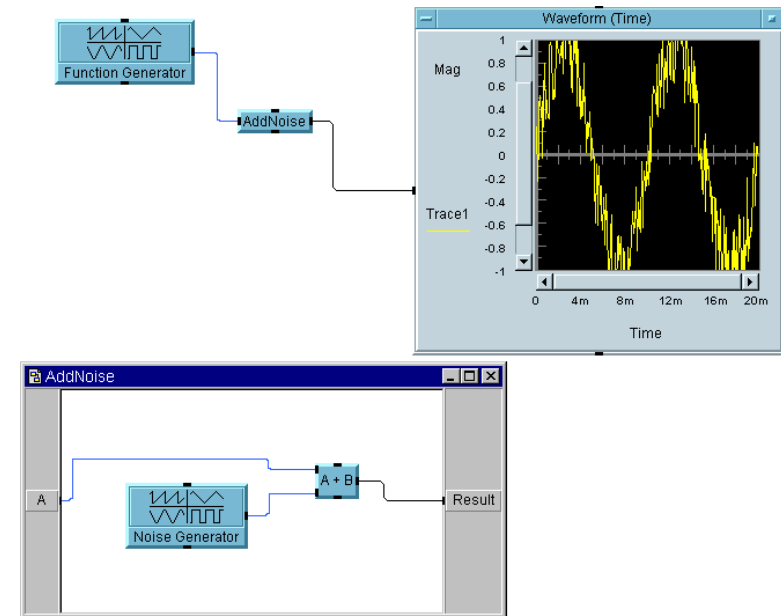

Figure 43 UserObject Renamed AddNoise
- To help you keep track of the UserObject, change the title from UserObject to AddNoise. Double-click the title bar and enter the new title in the properties dialog box. Figure 43 shows how this makes the program easier to follow.